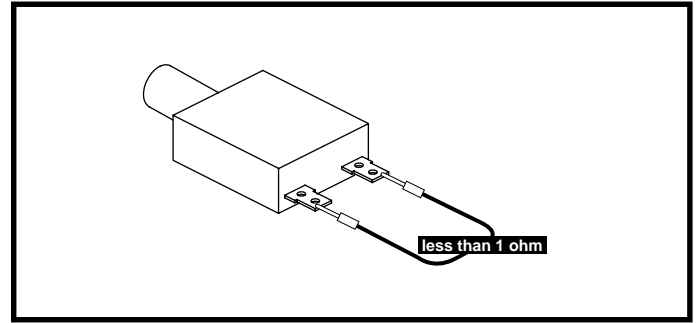

Figure 5. Circuit Breaker (3a)
10. Measure resistance across pin 1 and pin 2 of the circuit breaker (3a). **See figure 5.**
- If your multimeter indicates less than 1 ohm, then replace the circuit breaker harness (3) and retest the system.